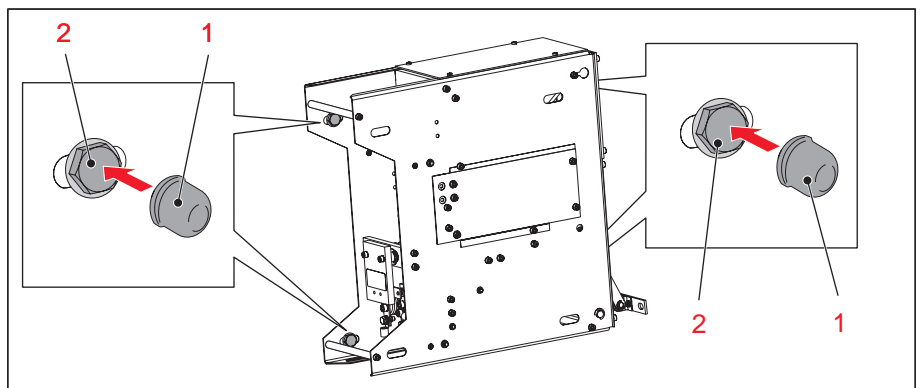
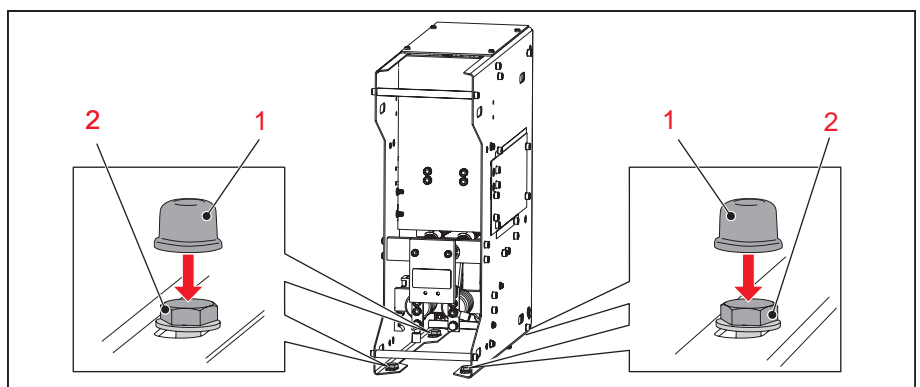

Figure 10: Fixing locking caps (when mounting on a lateral wall)
Figure 11: Fixing locking caps (when mounting vertically on the bottom)
1. Put glue on the inner side of the 4 locking caps (1) contained in the accessories kit and fix the locking caps on the screw heads (2) of the 4 fixing bolts, see **Figure 10** and **Figure 11**.